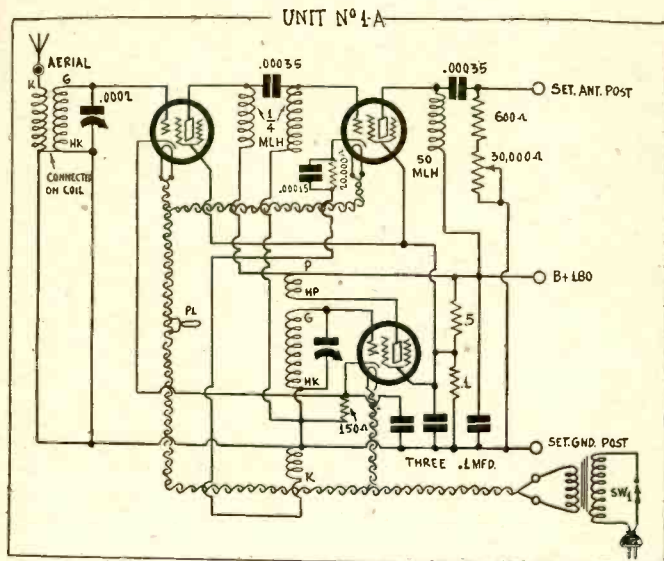

Fig. 1
**T**HE tuning curve of the all-wave converter diagrammed in Fig. 1 is such that, with an intermediate frequency of 1,500 kc, the lowest broadcast frequency comes in at 89 on the oscillator dial and the highest broadcast frequency at 42, using the larger of the two plug-in coils intended for the oscillator circuit. The principal tuning is done by virtue of the oscillator action, and it is the oscillator condenser alone that is actuated by the National dial. The other condenser, across the modulator grid circuit, while it is effective enough to tune out a weak signal, or to bring in a few different broadcast frequencies without moving the oscillator setting if the signals are very loud, is after all a secondary consideration in the tuning.
The winding terminals are brought out to prongs of the coil forms, and these prongs fit into a five-prong tube socket (UY type). The method of bringing out the leads for Fig. 1 was as follows, winding from bottom up: Antenna coil, cathode prong (K) to aerial; heater adjoining cathode (HK) to ground and grid prong (G) to grid. By this method ground is nearer to grid than is antenna, in a physical examination of the winding, and the antenna might be assumed to be grounded, pickup being prevented. If the number of antenna primary turns were very small this might be relatively true, but with a generous primary here, the effect is one of mutual induction, and the coupling is wholly adequate. The antenna primary therefore may consist of 20 turns and the tuned winding, 112 turns, using No. 28 enamel wire. These are equivalent to 132 turns tapped at the 15th.
The oscillator coil, from bottom up, has pickup winding at bottom, grid winding next, plate winding at top. The secondary has cathode prong (K) connected to the cathode circuit of the modulator tube, as diagrammed in Fig. 1; heater adjoining cathode (HK) connected to ground; grid prong (G) connected to grid; heater adjoining plate (HP) to B plus, and plate prong (P) to plate, if the windings are in the same direction. If the oscillator plate winding and grid winding are put on in opposite directions, then HP goes to plate and P prong to B plus, as marked in Fig. 1. It is immaterial which method is used, but imperative that it must be one method when the windings are in the same direction, and the other when they are in opposite directions, otherwise the oscillator will not be what its name